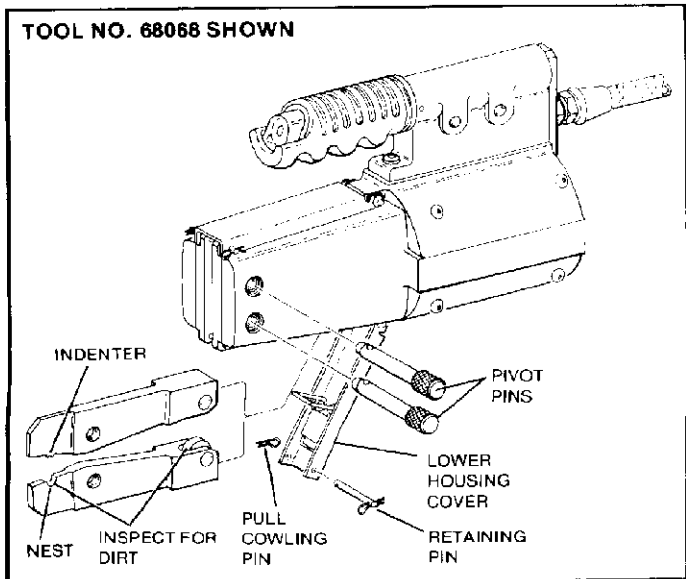

Figure 2
- (b) Inspect the die closure surfaces, bottoming surfaces and cam rollers for deposits of dirt or other foreign particles and wipe with a clean cloth. See Figure 2. Relubricate cam rollers as instructed in paragraph 4.3.
- (d) Pull one cowling pin and remove retaining pin from lower housing cover. Cover will swing open. See Figure 2.
- (e) Remove pivot pins as shown in Figure 2.
- (f) Orient jaws so that nest is on bottom and indenter is on top as shown in Figure 2.